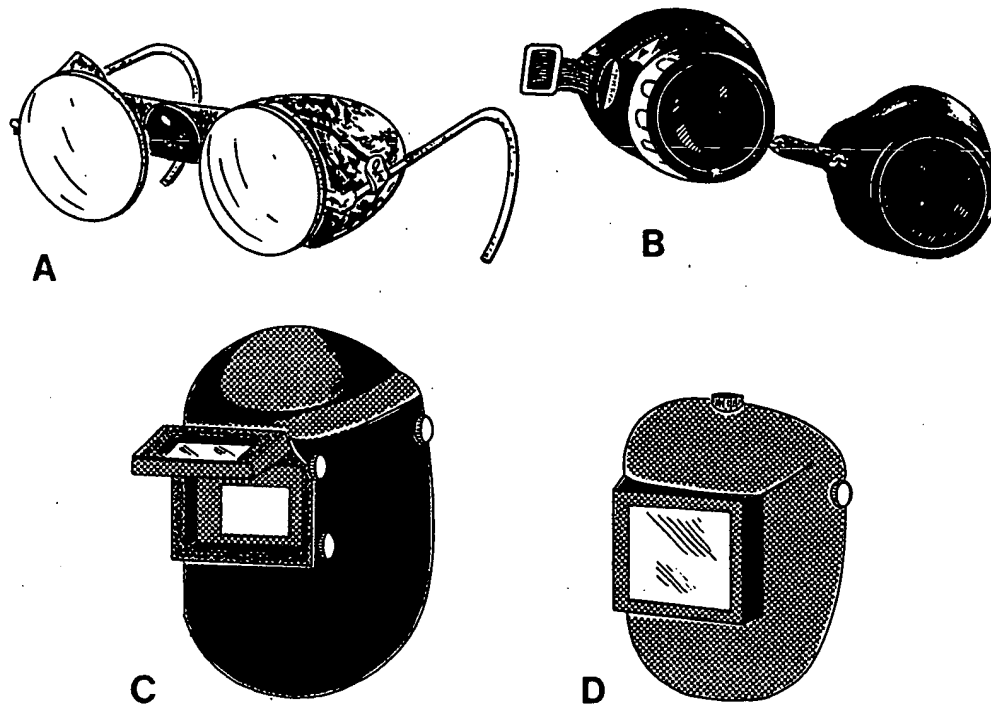

Figure 3-56.—Eye protection devices.
**NOTE:** In addition to providing eye protection, helmets also provide a shield against flying metal and ultraviolet rays for the entire face and neck. Figure 3-56 shows several types of eye protection devices in common use.